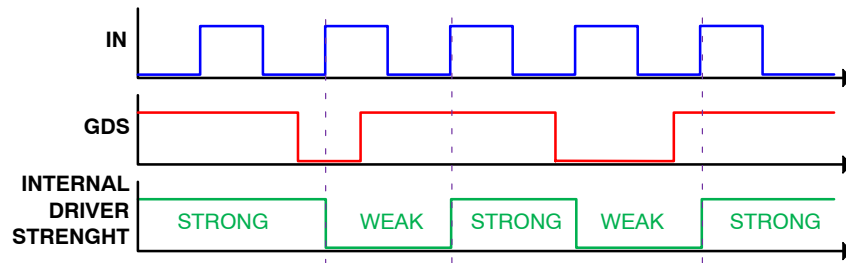

Figure 41. GDS Input Timing Behavior
Similarly, as EN Input, the GDS is a Schmitt trigger input, which typically high and low levels are 1.6 and 1.2 V, respectively. GDS Input Gate Drive Strength sets Driver turn-on resistance. If the GDS pin is at low-level, then turn-on resistance is approximately 300 Ω . If GDS is pulled to high-level, then turn-on resistance is 10 Ω . When GDS is controlled externally, use a small filter to filter out noise that may come from high-speed switching. If GDS feature is not needed and driver strength should be set to high level, then it's better to pull-up GDS pin to VDD via low impedance <100 Ω – same approach as in case of EN pin. The NCP58920 GDS feature is dedicated for accompanying device with Active Clamped Flyback controller NCP51568. In a such implementation is GDS input controlled based on NCP1568 FB signal, which sets “Low Driver Strength” for low FB levels (during burst mode or light-load mode) and “High Driver Strength” for power level, that pushes FB signal level above high threshold. GDS Input is level sensitive, and its proper level must be set approximately 15 ns before PWN (IN) signal edge comes. Once driver strength is confirmed by PWM rising edge, its level is kept until next PWM rising edge is introduced. GDS signal does not have any impact during mid-cycle change or after active level cycle change. GDS Input timing dependency is depicted in Figure 41.